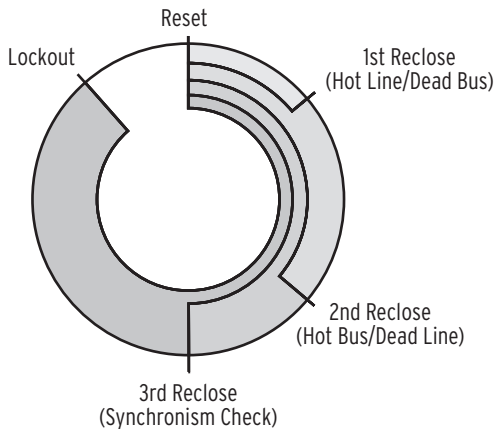

Figure 27 Motor-Driven Reclose Timer
- Emulate a motor-driven reclose timer, including stall, reset, and drive-to-lockout conditions (refer to *Figure 27*).